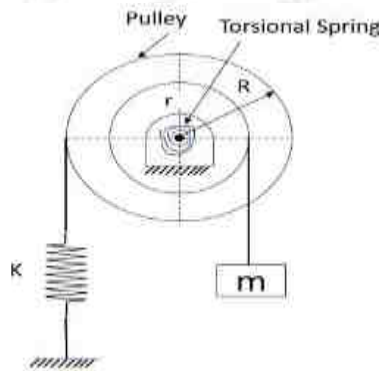

Fig.01
Q.2 (a) Find the system's natural frequency shown in Figure 01.